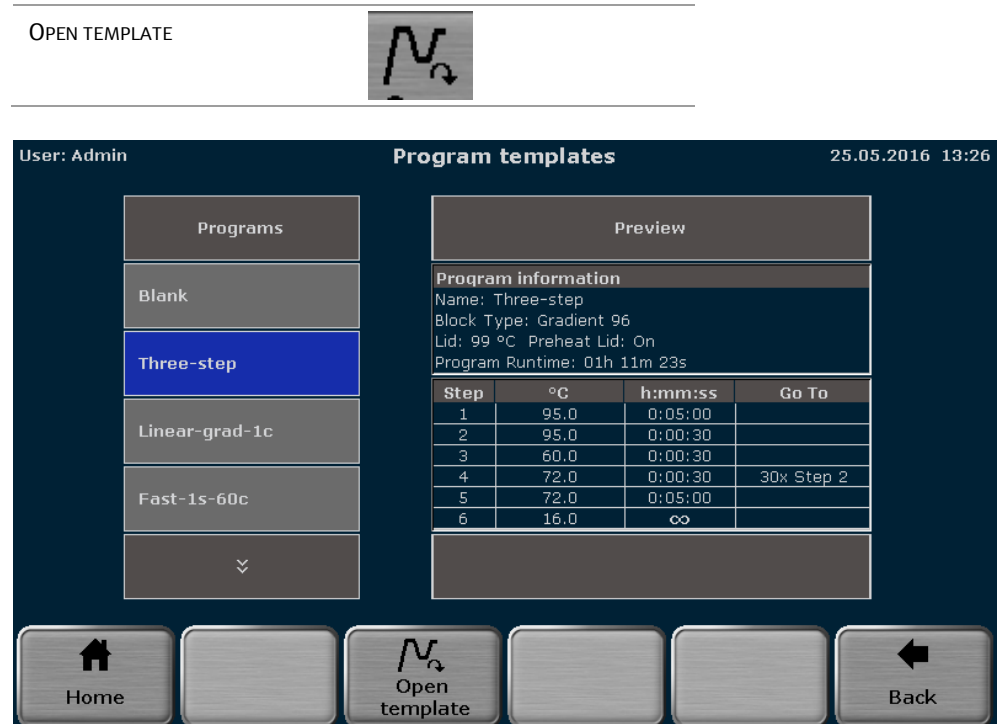

Fig. 26 Program template screen
4. The program template screen opens (see Fig. 26). Search for a program template using the cursor keys and press the corresponding button to select it.
The program structure can be controlled in the program preview (see Fig. 26). If a template is selected, the program steps and some additional information are displayed in spreadsheet form. By using the program preview function, templates can be checked before they are opened.